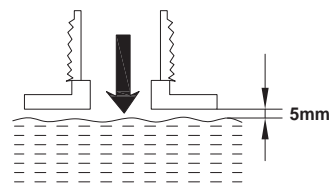

Fig. 9
4. Add correct fuel into the tank. Leave a minimum 5mm of space between the top of the fuel tank and inside the edge of the tank to allow for expansion (Fig.9).